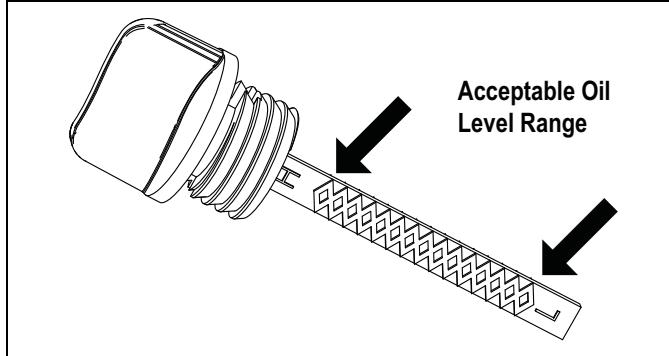

Figure 6-2. Dipstick
5. If level is low, fill until the oil level is between "L" and "H" on the dipstick (Figure 6-2).